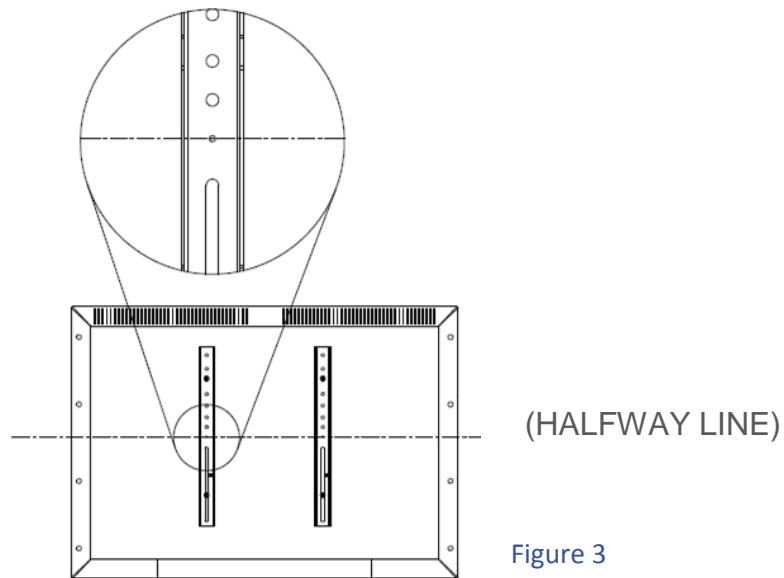

Figure 3
- STEP 9:** For a balanced unit, align the centre hole of the bracket with the halfway line of your display (Figure3) and determine equally spaced screw fittings, taking into account the size of your display (adjustment may be required depending on screen type).